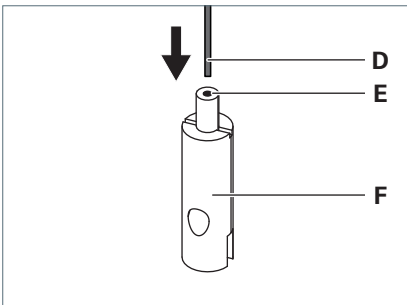

Fig. 15: Mounting the wire rope holder.
- ▶ Guide the wire rope **D** through the guide bushing **E** of the wire rope holder **F**, see Fig. 15.